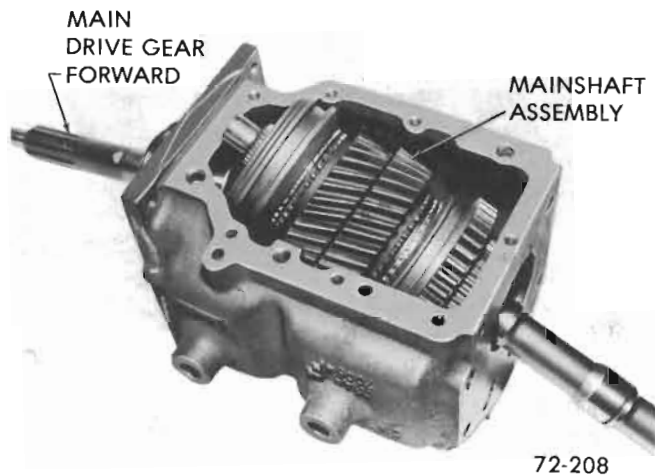

Figure 72-77 - Removing Mainshaft Assembly
- 18. Remove mainshaft assembly through top of case. See Figure 72-77.